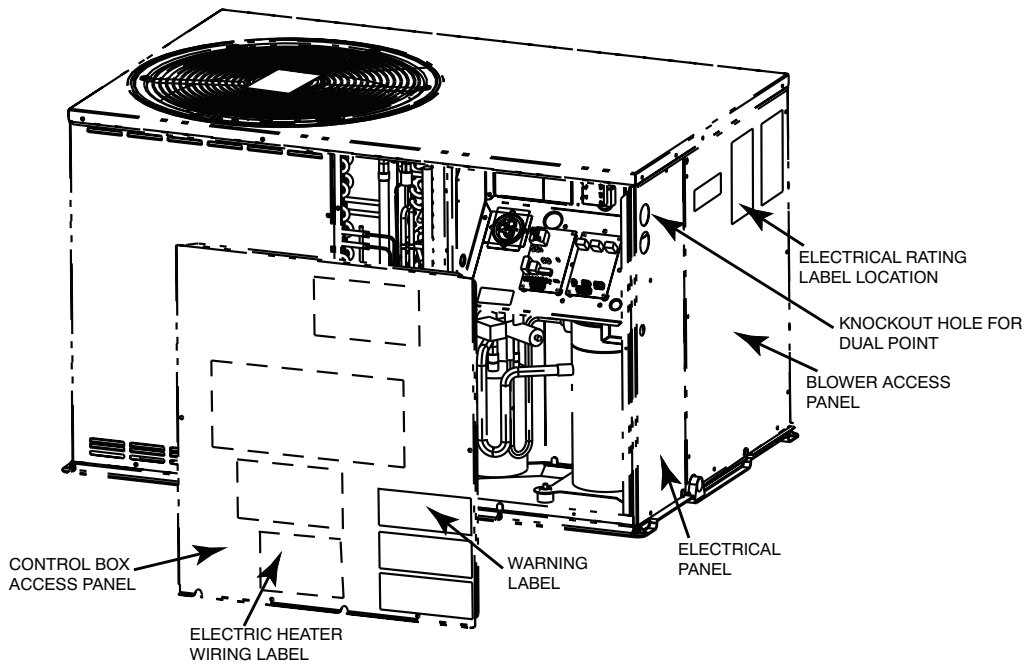
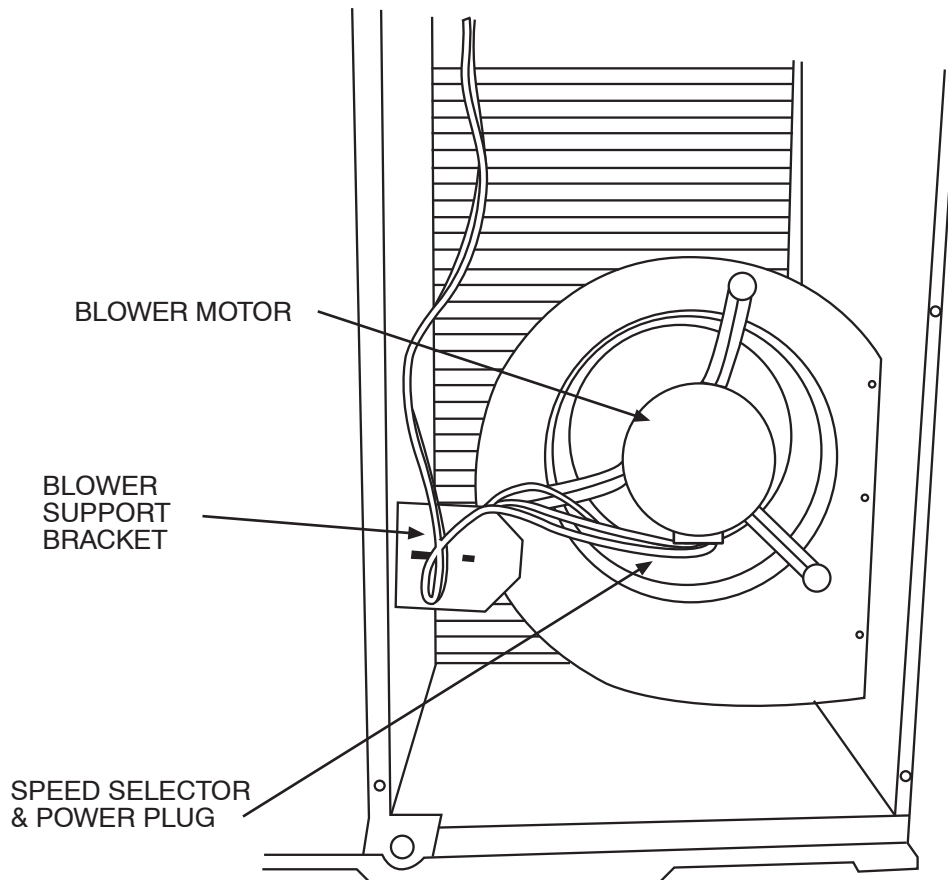

Fig. 1 - Access Panel and Label Location
Fig. 2 - Indoor Blower Compartment
3. Remove unit side panel to access blower compartment (See Fig. 1 and Fig. 2).
4. Disconnect wiring to motor by removing speed selection and power plugs from bottom of motor (See Fig. 2).
5. Remove rear blower support bracket. Remove shipping block and label under blower if unit has one (See Fig. 2).
- Attach the adhesive backed wiring label provided with the heater to the back of the access panel near the unit wiring label (See Fig. 1).
2. Remove Control Box Access Panel (see Fig. 1), check for clearance on the inside of control box, and remove a 7/8-in knockout hole on the Electrical Panel for second power line.
3. Attach warning and rating labels in the selected location (see Fig. 1).